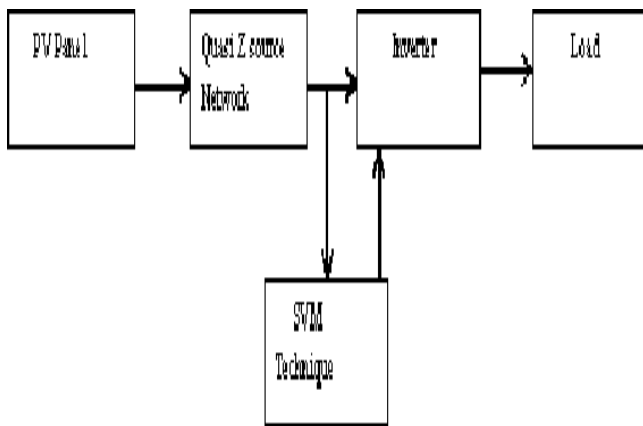

Fig. 1. Block Diagram
Figure 1 shows the general style of the book. PN circuits turn light into power in photovoltaic cells. Easily and quickly, solar energy can be turned into electricity. Light that is absorbed by a semiconductor releases electrons, which are then called free electrons. Depending on the material used, photovoltaic (PV) technology usually makes a minimum voltage of 0.5 V to 0.8 V.